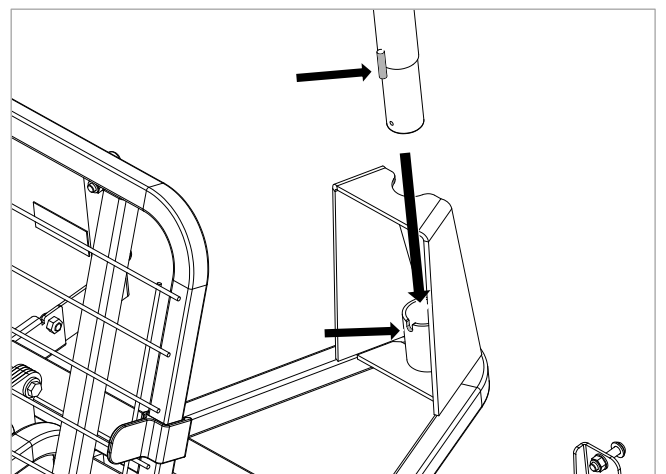

Figure 7.7 – headboard removed for clarity
7. Ensure that the locating pin locates in the slot on the bed tube. Once inserted into the bracket it should not be possible to rotate it (see Figure 7.7).